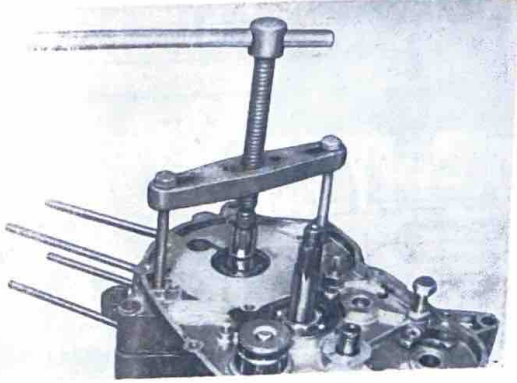

Fig. 3-15-2
b. Install the crankcase dividing tool on the right half of the crankcase, and alternately tap the transmission main axle and the side of the right half with a rubber tip hammer, so that the crankcase can be divided into two halves. (Fig. 3-15-2 and 3)